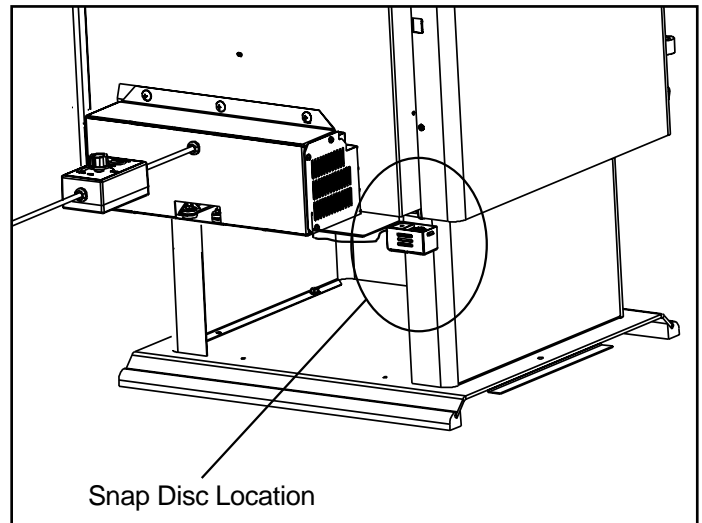

Figure 34.3
1. Locate the snap disc bracket assembly at the bottom left rear corner of the stove. **Figure 34.3**